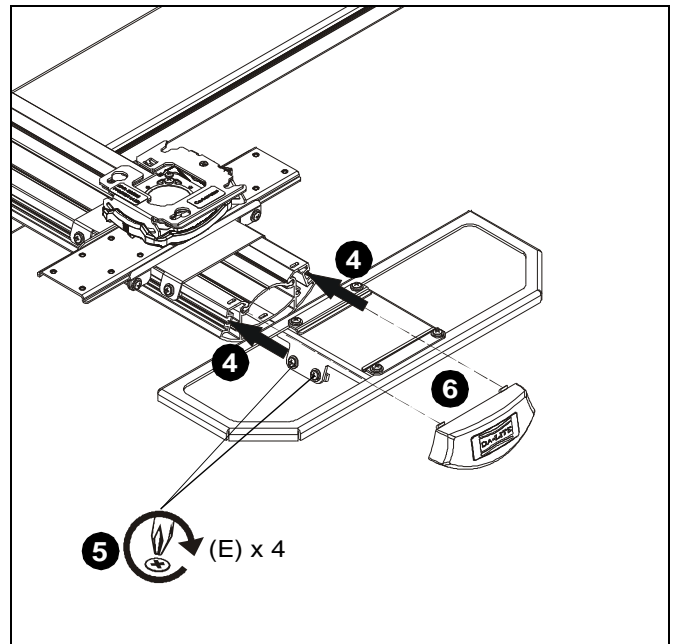

Figure 4
4. Slide assembled protection guard onto projector arm by inserting slide nuts (D) into corresponding grooves on arm. (See Figure 4)
5. Tighten screws when protection guard is in desired position. (See Figure 4)
6. Reinstall end cover to projector arm. (See Figure 4)